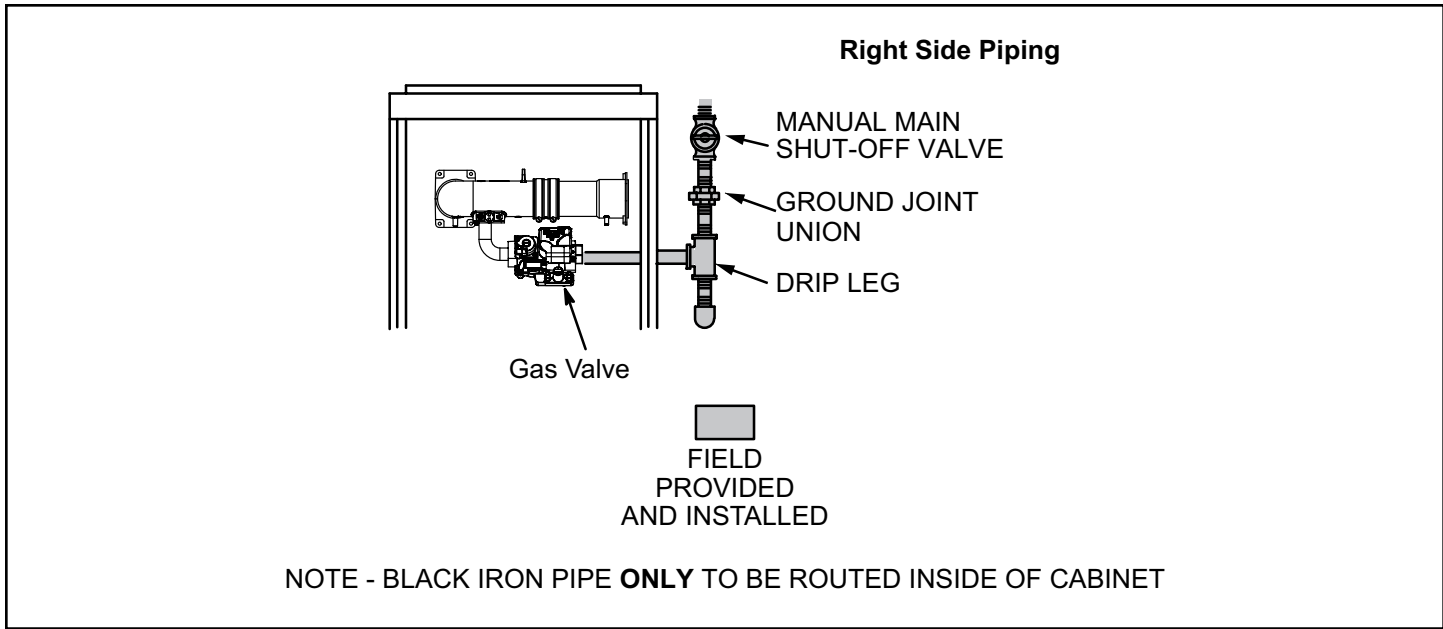
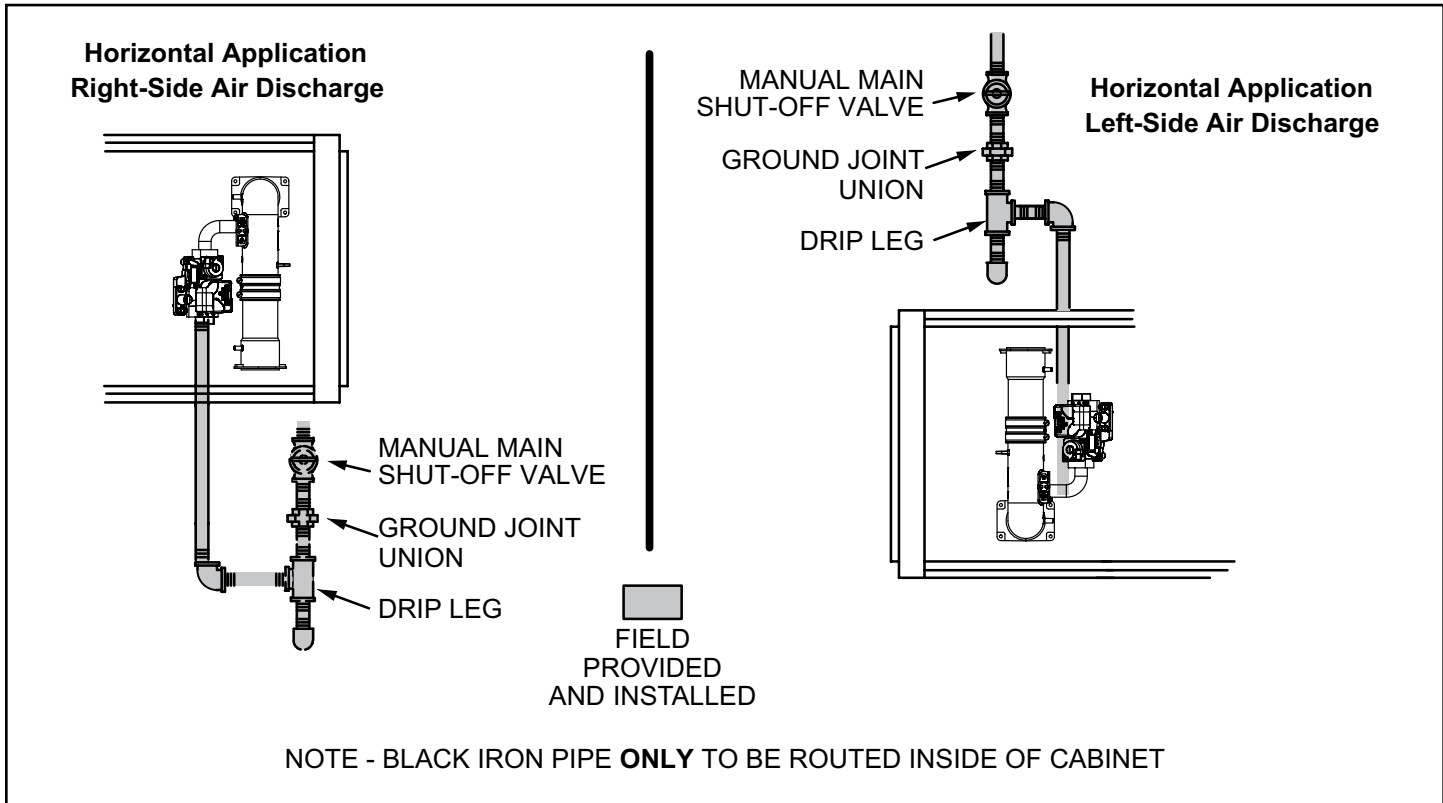

Figure 43. Possible Gas Piping Configurations - Upflow Applications
Figure 44. Possible Gas Piping Configurations - Horizontal Applications
1. Gas piping may be routed into the unit through the right-hand side only. Supply piping enters into the gas valve from the side of the valve as shown in Figure 43. Connect the gas supply piping into the gas valve. The maximum torque is 800 in lbs and minimum torque is 350 in lbs when attaching the gas piping to the gas valve.
3. Gas piping must not run in or through air ducts, clothes chutes, chimneys or gas vents, dumb waiters or elevator shafts. Center gas line through piping hole. Gas line should not touch side of unit. See Figure 43 and Figure 44.